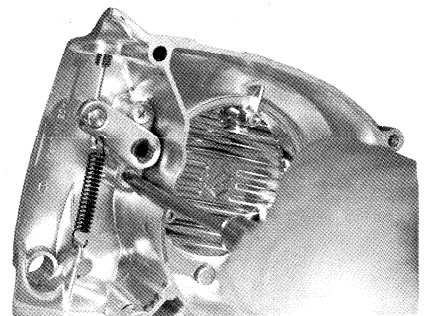

Fig. 5-4-15
16. Remove the clutch release screw assembly by loosening 2 cross head screws with a cross drivers. (Fig. 5-4-15)